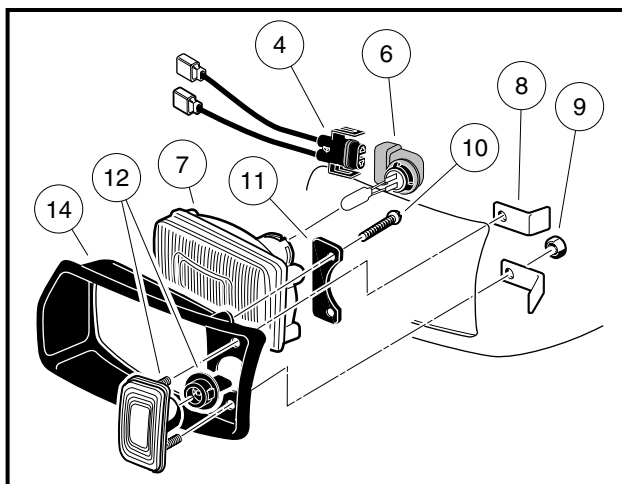

Figure 12b-29 Headlight Assembly
3. From the front of vehicle, reach under cowl and turn the wire harness/halogen bulb assembly (4 and 6) clockwise one-quarter turn (**Figure 12b-29, Page 12b-25**).
4. Remove the wire harness/halogen bulb assembly (4 and 6) from the headlight lens (7).
5. Lift the retaining tabs on the connector (4) and remove halogen bulb assembly (6).